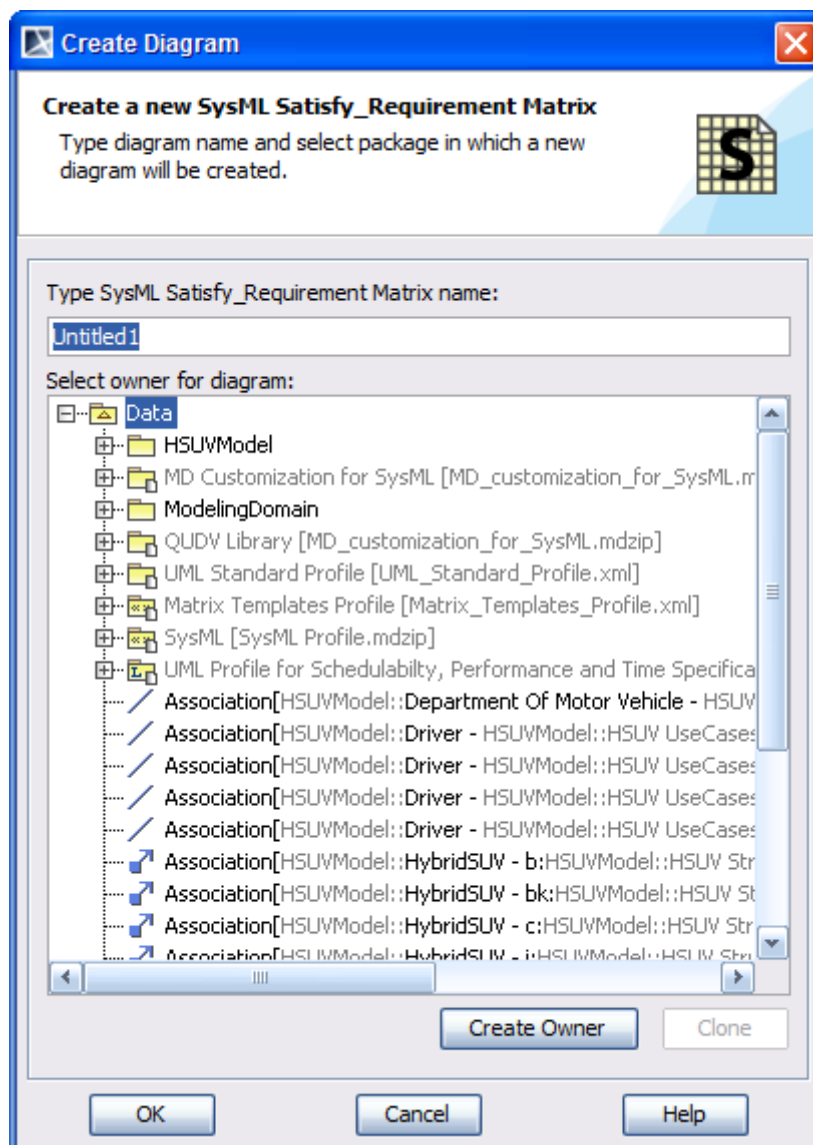

Figure 259 -- Create Diagram Dialog
The **Create Diagram** dialog will open (Figure 259).
4. The **Create Diagram** dialog will open (Figure 259). Type the name of the editable matrix you want to create, and select its owner from the element tree.